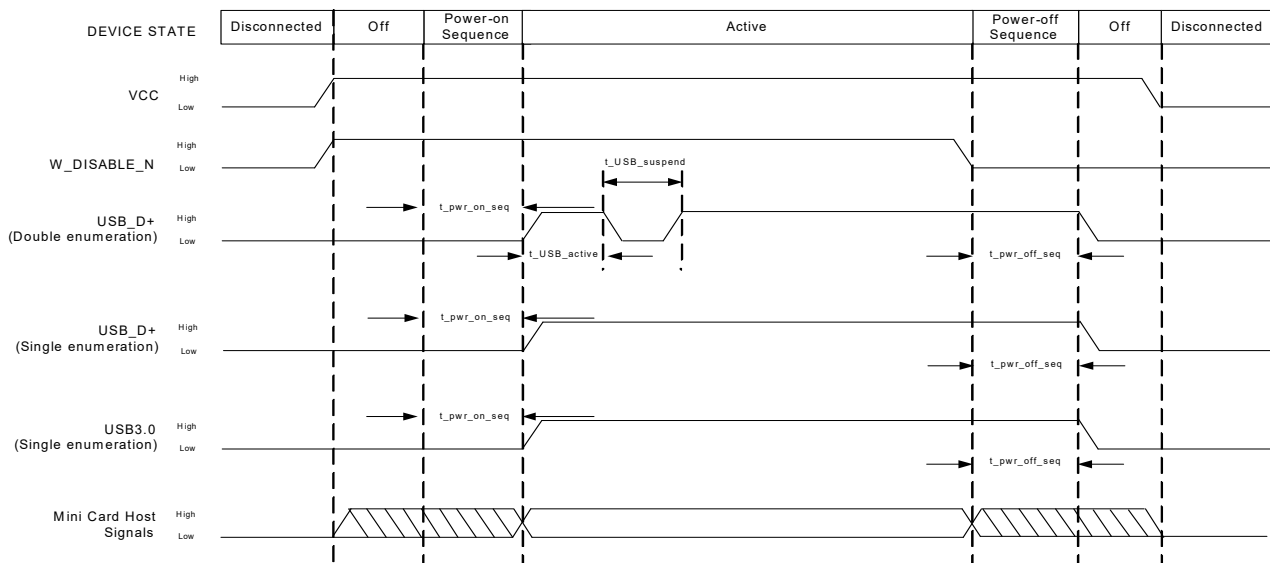

Figure 4-2: Signal Timing (*W_DISABLE_N*, and USB Enumeration)
Figure 4-2 describes the timing sequence for powering the module on and off.
- Double enumeration—As shown in Figure 4-2 on page 48: